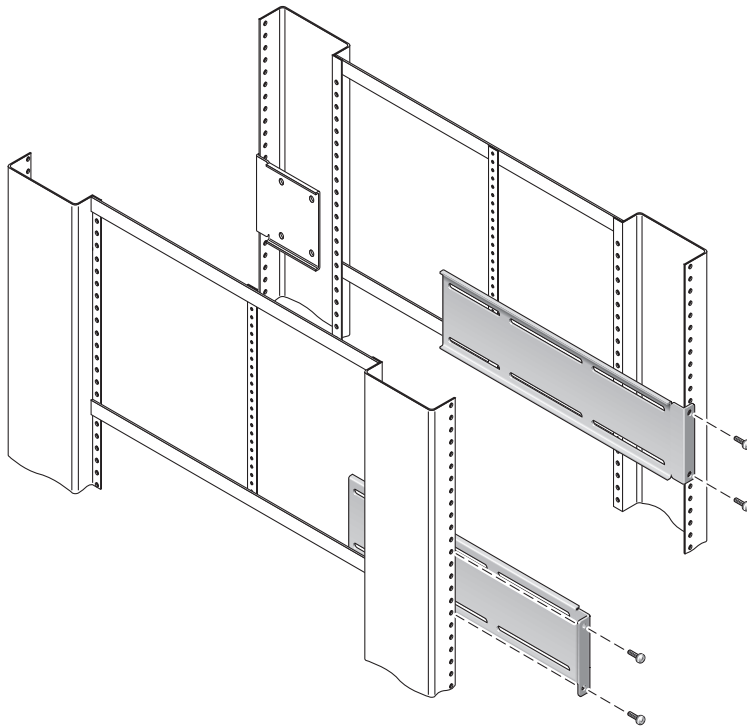

FIGURE 3-11 Securing the Long Brackets to the Rear of the Rack
8. Lift each long bracket to the desired position at the rear of the rack and attach a long bracket to each of the rear rack uprights (FIGURE 3-11).
7. **Secure the extender brackets and slide assemblies in the rack as shown in FIGURE 3-11.**